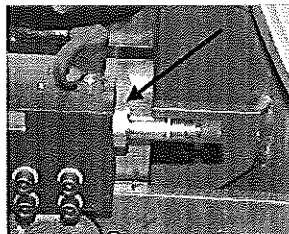

Figure 7
9. Have the new cartridge out and ready to install. Place rags or towels under cartridge to soak up excess oil. Loosen the cartridge from the holding valve block. This requires a 7/8" wrench. See Figure 7. Once this is loosened, pull the cartridge out quickly and replace. See Figure 8. Hydraulic oil will steadily leak out while doing this.